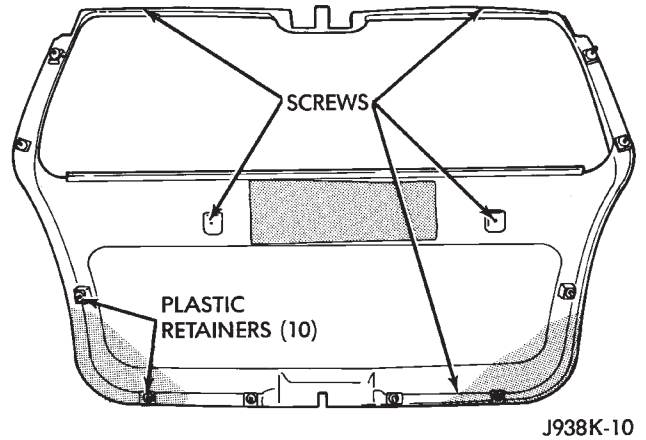

Fig. 11 Liftgate Trim Panel Removal
(2) Remove the trim panel with a wide flat blade tool (Fig. 11).